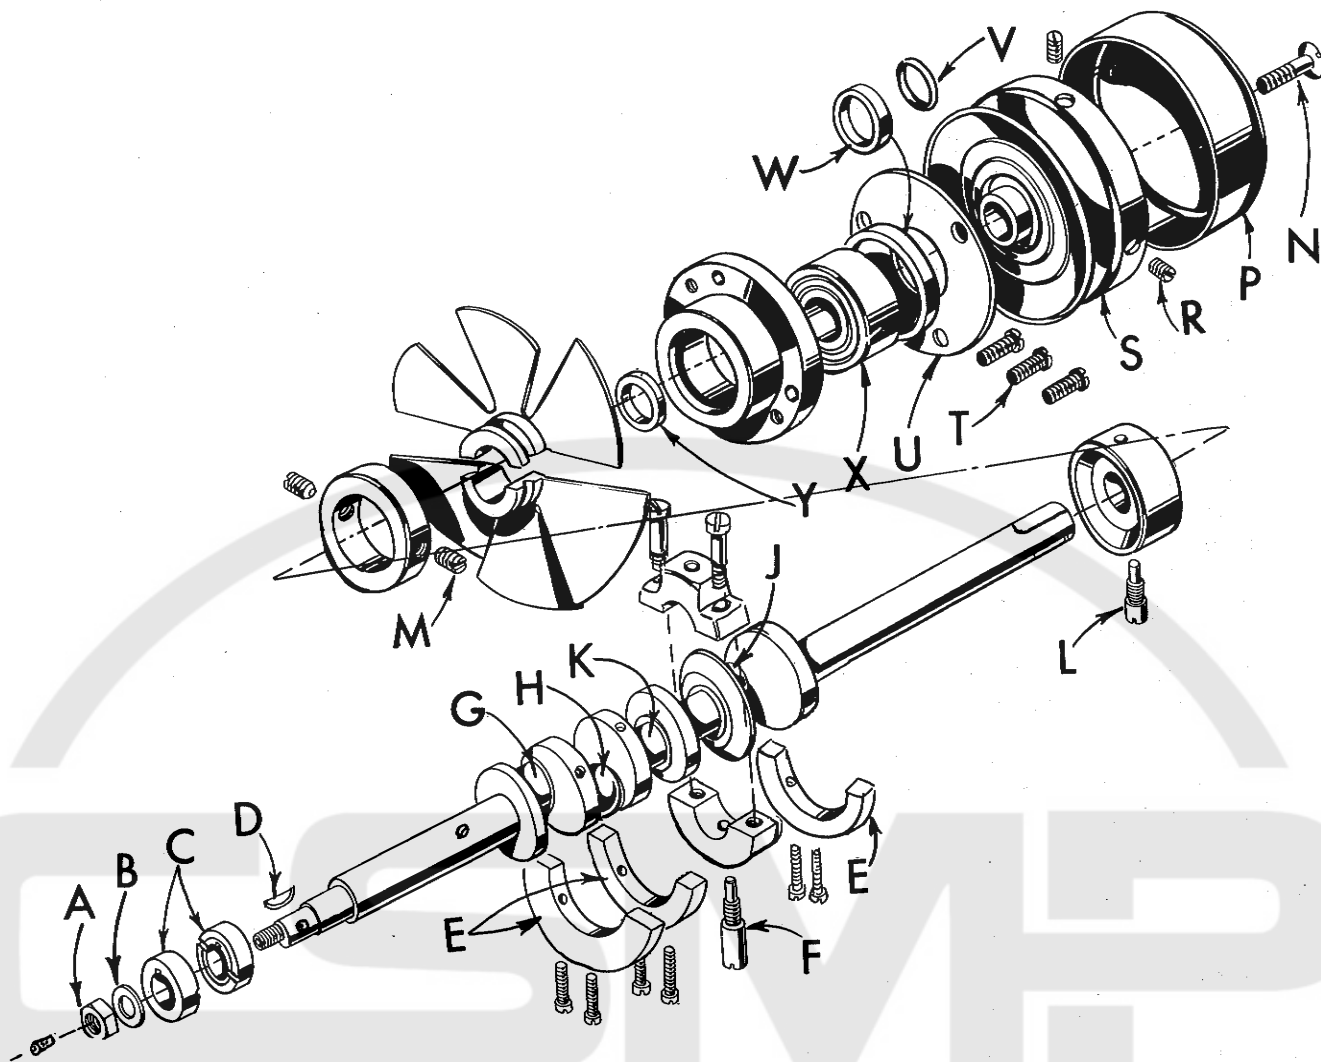
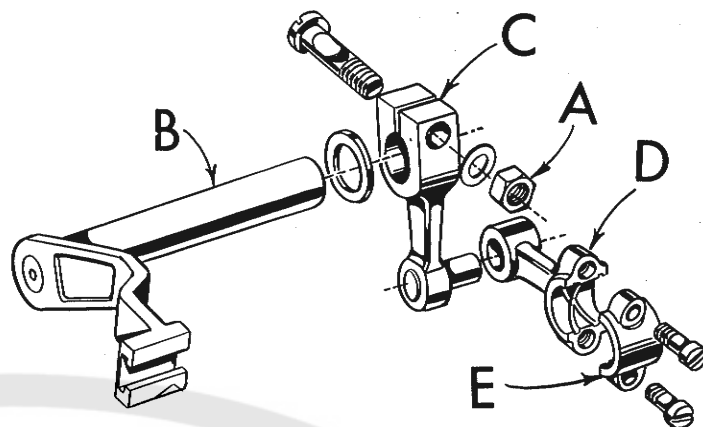

Fig. 18
Fig. 19
3. Remove feed eccentric nut (A, Fig. 18) and washer (B), and, with the aid of the eccentric extractor, slip off the eccentrics (C).
4. Remove key (D).
5. Remove three counterweights (E). Identify these counterweights so that they will be re-assembled in the proper places.
6. Remove screw (F) which holds crankshaft split bearing. This screw is reached through bottom of bed casting.
8. Loosen clamp nut (A, Fig. 19) which holds upper knife driving arm (B). Access to clamp nut is through top cover. Draw driving arm to the left until upper knife driving lever (C) and connecting rod (D) drop, allowing removal of bearing cap (E). This is at bearing point (K, Fig. 18) on crankshaft. Observe same precautions when re-assembling cap as described in 7 above.
9. Remove screw (L, Fig. 18) which holds inner right crankshaft bearing. This screw is reached through bottom of bed casting.
10. Loosen two screws (M) in fan collar; remove both halves of cooling fan.
11. Remove screw (N); take off pulley cap (P).
12. Loosen two screws (R); remove pulley (S).
13. Remove three screws (T); take off bearing retaining plate (U); also, spacer collars (V) and (W) may be removed at this time.
15. If necessary to replace ball bearing (X), it should be pressed off shaft on an arbor press. In replacing bearing it must be pressed on carefully until it seats against ground thrust washer (Y).